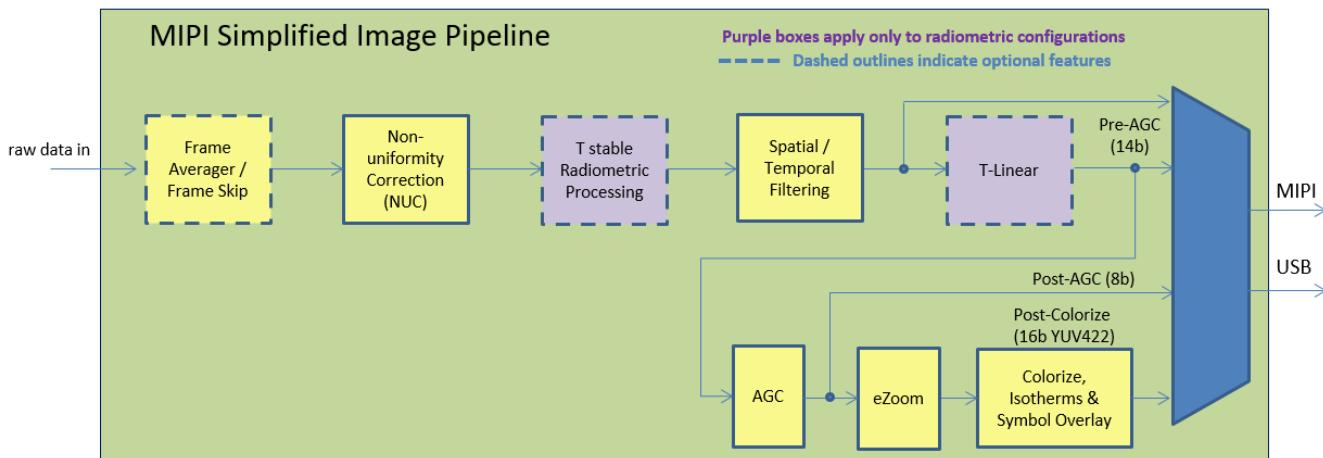

FIGURE 52: BOSON+ SIGNAL PIPELINE – MIPI OUTPUT ENABLED
As described in Section 5 and shown again in Figure 52, there are multiple locations in the signal pipeline where video can be tapped for output on the MIPI channel. MIPI specific details can be found in the Boson MIPI application note 102-2013-106. Boson+ provides the following MIPI video-tap modes:
- **Radiometry Enabled Pre-AGC (14-bit) (factory default with Radiometry enabled)**: On Radiometry enabled cameras, the T-stable or T-linear tap point is available. See Figure 52, as well as Section 7.7.